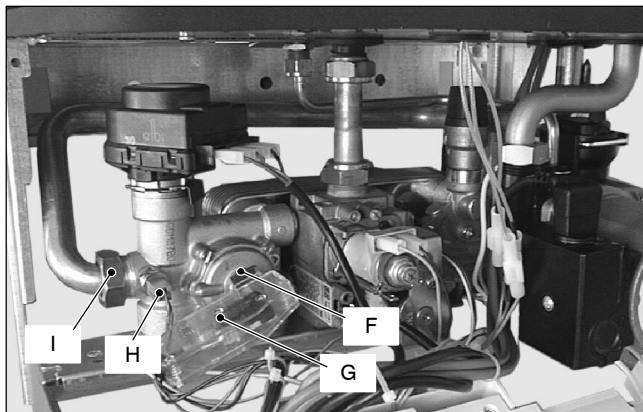

Fig. 24
- 4 Remove the fixing spring *F* (Fig. 24) and remove the primary circuit flow switch *G*.